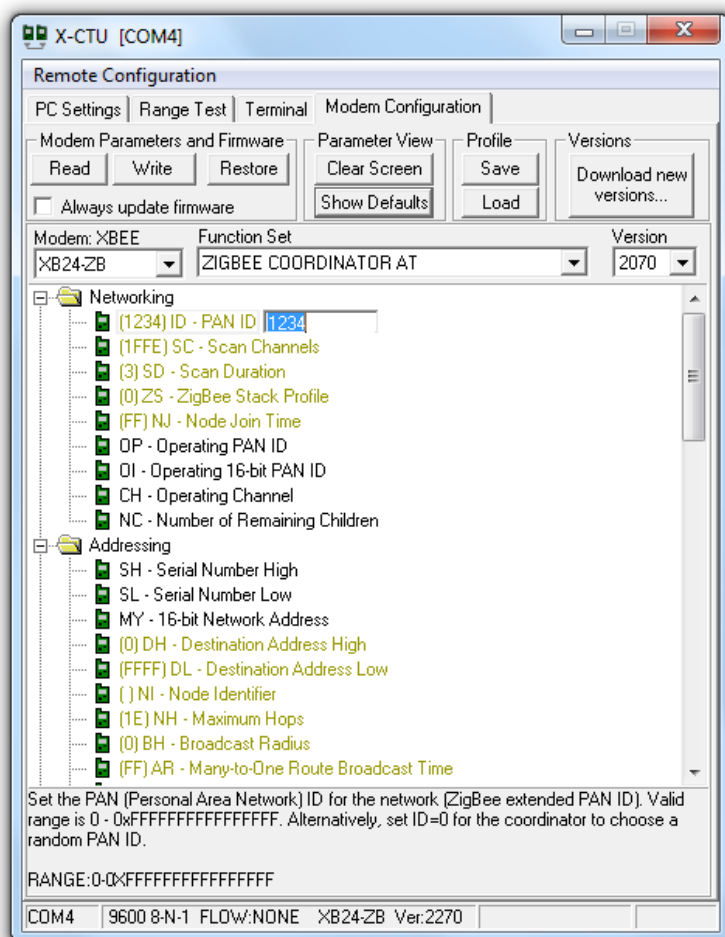

Figure 14-5. Configuring the XBee
If you have trouble getting your XBees to talk, make sure they both have the same type of firmware (e.g., XB24-ZB under the Modem: XBEE setting shown in Figure 14-5), and that they are both running the most current version of the firmware (the Version setting shown in Figure 14-5). For a comprehensive set of XBee troubleshooting tips, see Robert Faludi's "Common XBee Mistakes" at <http://www.faludi.com/projects/common-xbee-mistakes/>. For extensive details on working with XBees, see his book, *Building Wireless Sensor Networks*, published by O'Reilly.
6. Change the PAN ID setting from 0 to 1234 (or any hexadecimal number you want, as long as you use the same PAN ID for all devices on the same network), as shown in Figure 14-5.